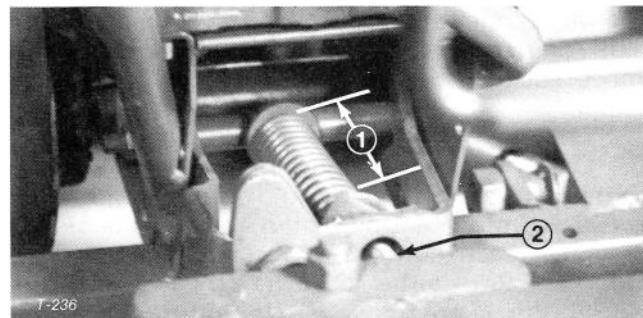

Figure 32
REAR COUNTERBALANCE SPRING — Turn adjusting nut (Fig. 32) counter-clockwise to release tension when disassembling counterbalance spring assembly.
The rear counterbalance spring length is factory set at 4-1/4 in. (10.8 cm), which is the measurement from washer to washer (Fig. 32). This measurement is usually adequate for most conditions. Should an adjustment be necessary, use the following procedures:
1. Turn adjusting nut counterclockwise to decrease spring tension (Fig. 32). Turn until both ends are equal in height.
1. Turn adjusting nut clockwise to increase spring tension (Fig. 32). Turn until both ends are equal in height.